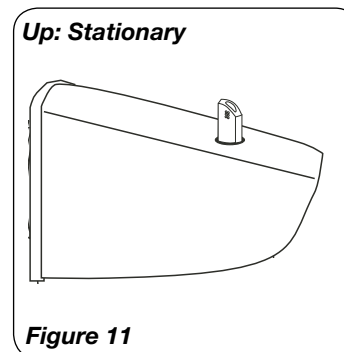

Figure 11
4. **OSCILLATION:** Push down oscillation knob on motor housing to make fan head move from side to side. (**Figures 11 and 12**)